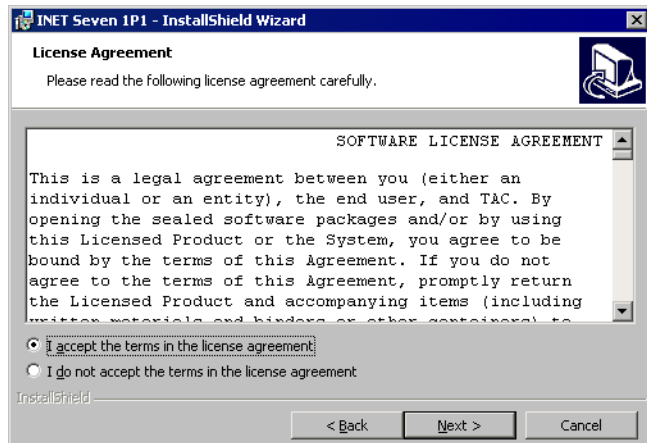

Figure 2-5. Software License Agreement Screen
10. The next screen provides the Software License Agreement (see Figure 2-5).